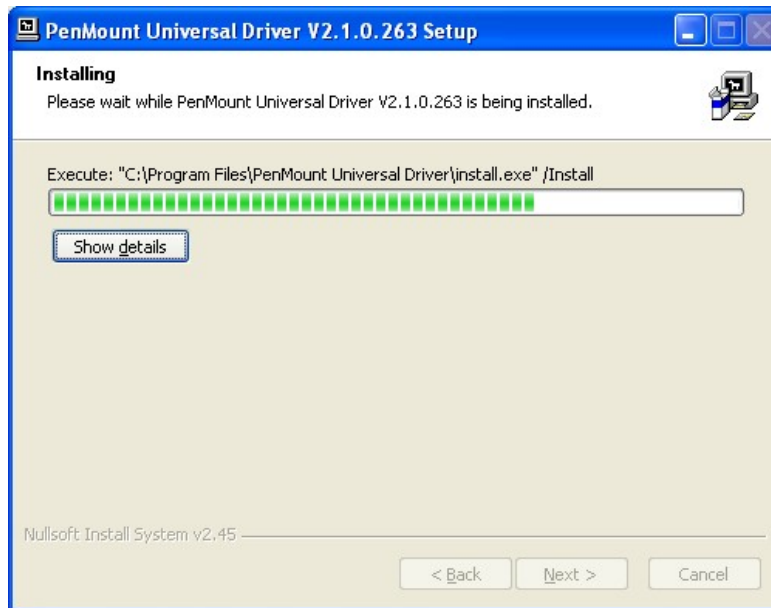

Figure 7-20: Touch Screen Driver Installation Screen
Step 10: The **Install** screen appears and displays the progress of the installation (**Figure 7-20**).